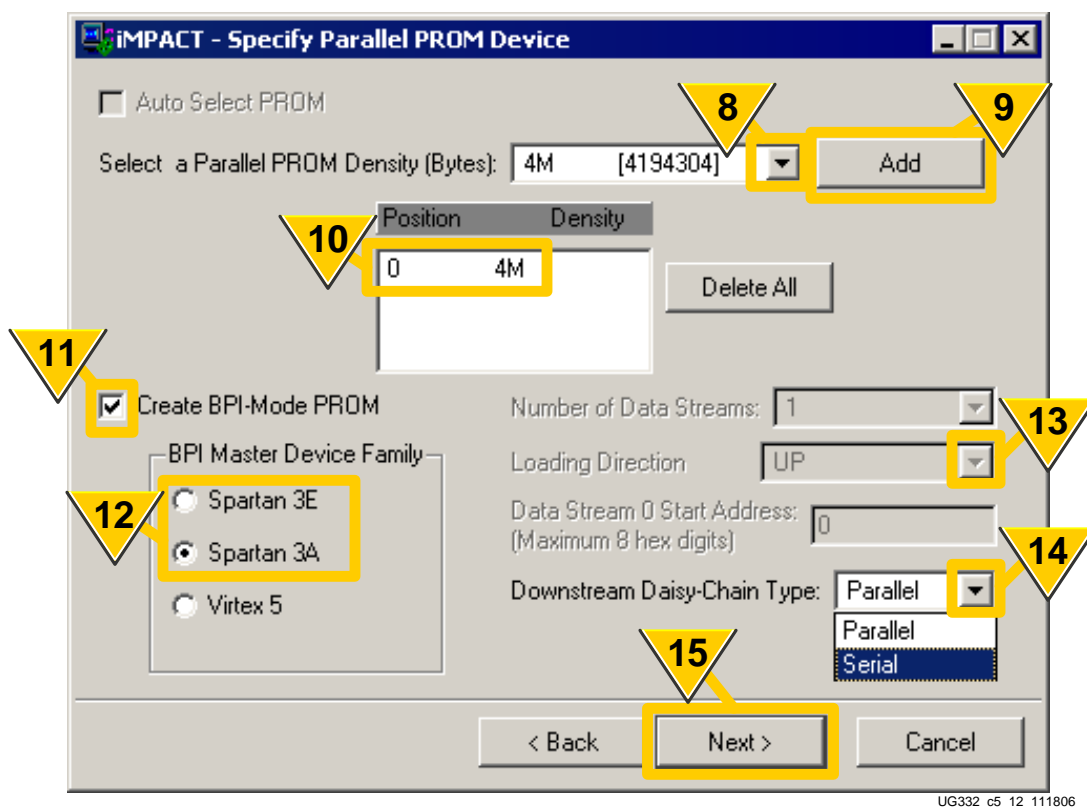

Figure 5-10: Select Parallel PROM Size and Configuration Style
The **CCLK** output from the master device operates at 8 times the frequency of the Flash read interface and CCLK synchronizes all FPGAs in the daisy chain. The master FPGA accesses the byte-wide Flash once every 8 **CCLK** cycles but provides serial data on its **DOUT** output to downstream FPGAs every **CCLK** cycle. iMPACT programming software automatically adjusts the CCLK frequency when serial daisy chains are selected in Step 14, Figure 5-10, page 158. In standalone BPI mode, the **ConfigRate** option determines the byte-wide interface frequency. When a BPI daisy chain is selected, the **ConfigRate** option determines the serial interface frequency, and the parallel Flash interface will run at 1/8 of that rate.
8. As shown in Figure 5-10, select the Parallel PROM Density, measured in bytes. This example uses a 32 Mbit Flash PROM, equivalent to 4 Mbytes.